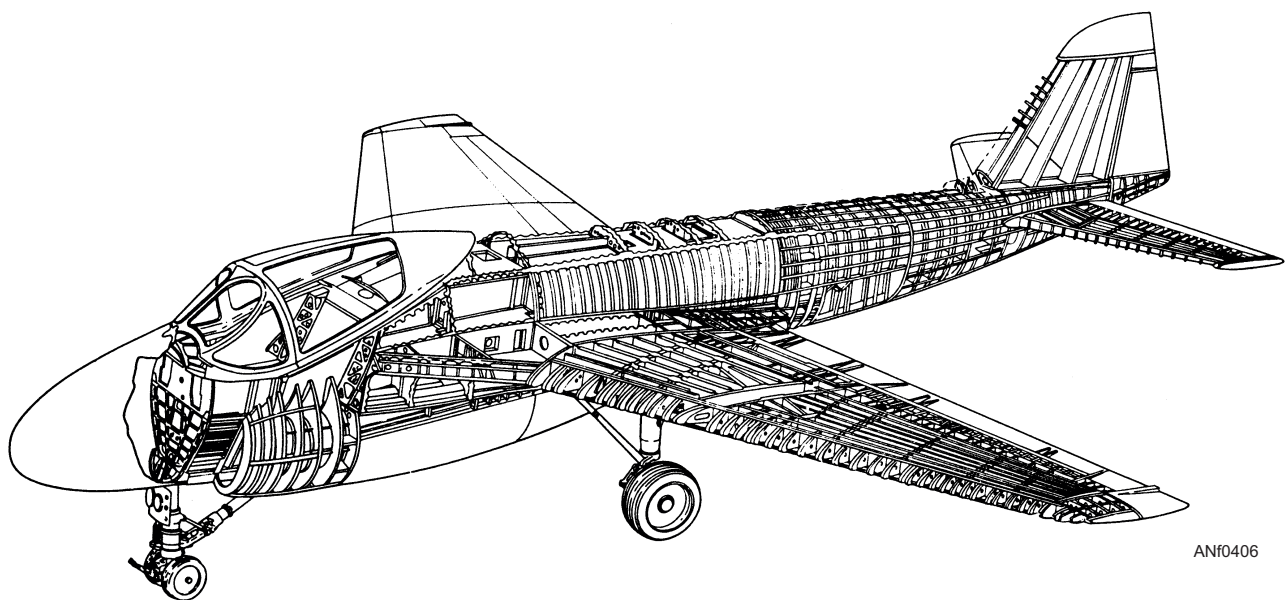

Figure 4-6.—Semimonocoque fuselage construction.
- Semimonocoque design overcomes the strength-to-weight problem of monocoque construction. See figure 4-6. In addition to having formers, frame assemblies, and bulkheads, the semimonocoque construction has the skin reinforced by longitudinal members.